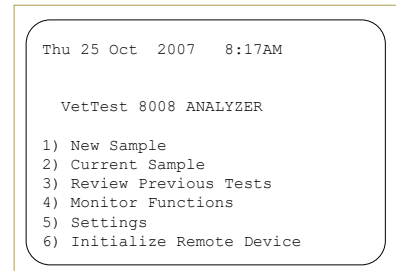

Figure B-13: VetTest analyzer, Main Menu
4. After warming up, the Main Menu appears (Figure B-13).